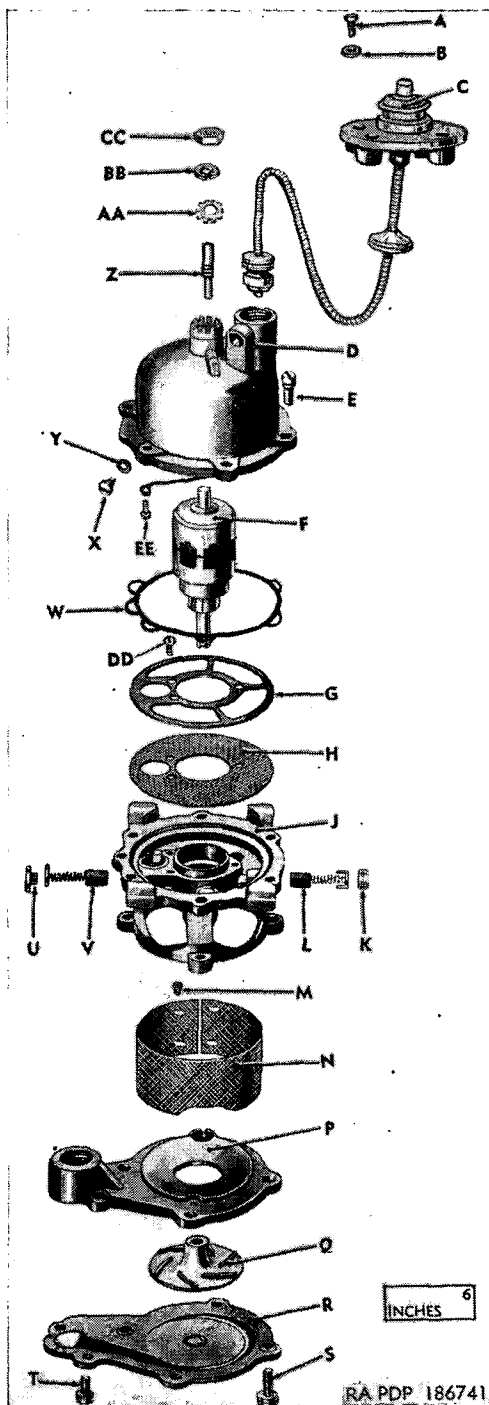

Figure 76. Typical Carter electric fuel pump—disassembled view.
*a. General.* Before disassembling the fuel pump for servicing, obtain the proper repair package as listed in table V (par. 110). Refer to figure 76 for disassembly and subsequent assembly procedures.
*b. Remove Cable Assembly From Pump.* Remove cable lock screw (X) and lock washer (Y). Unscrew cable nut, and detach cable assembly (C) from the top of the field housing, bearing, and coil assembly (D).
*c. Remove Outside Strainer.* Remove strainer screws (M) from outside strainer (N) and discard strainer.
*d. Remove Impeller.* Remove four long and two short volute screws (S and T) with lock washers which attach upper and lower volutes (P and R) to pump body assembly (J). Remove lower volute (R). If impeller and ball assembly (Q) is stuck on armature shaft, use two screw drivers and, working from opposite sides with a twisting movement, remove impeller from armature shaft. Remove upper volute (P) from pump body.
*e. Remove Brush Assemblies.* Remove the larger of the brush screw plugs (U) from the side of the pump body. Lift out brush by insulated plate. This is the positive brush assembly (V). Remove negative brush screw plug (K) and brush assembly from opposite